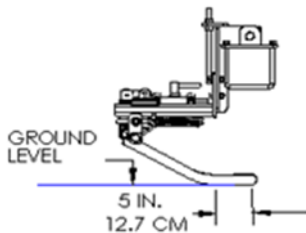
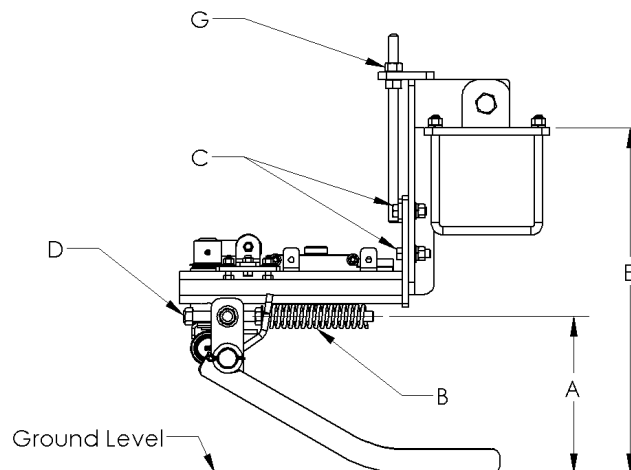

Figure 7-8: Row Finder Wand Placement
Figure 7-9: Row Finder Adjustment
When defoliating, the row finder wands should be adjusted like Figure 7-8 such that there is 5 in. (12.7 cm) of contact between the ground and row finder wands. Adjustment spring (B), shown in Figure 7-9, can be adjusted to apply more down pressure to ensure constant contact with the beet row.
Likewise, the row finder wands should be angled down when lifted out of the ground as shown in Figure 7-9. Dimension (A) can be adjusted using nuts (D).